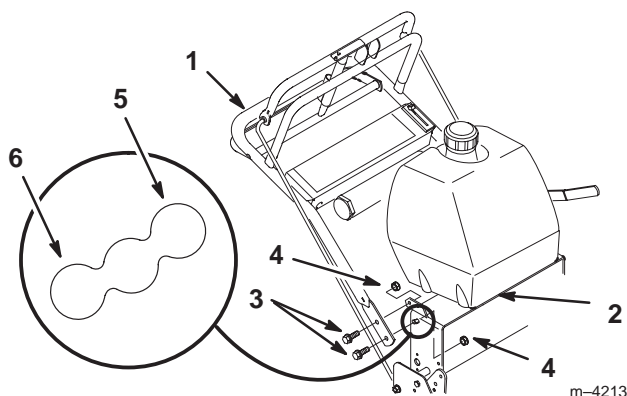

Figure 3
1. Position handle outside frame and align upper handle mounting holes with desired mounting holes in rear frame. Select high, medium or low according to operators height (Fig. 3).
2. Secure each side with 2 bolts (3/8 x 1 inch) and 2 locknuts (3/8 inch) (Fig. 3).